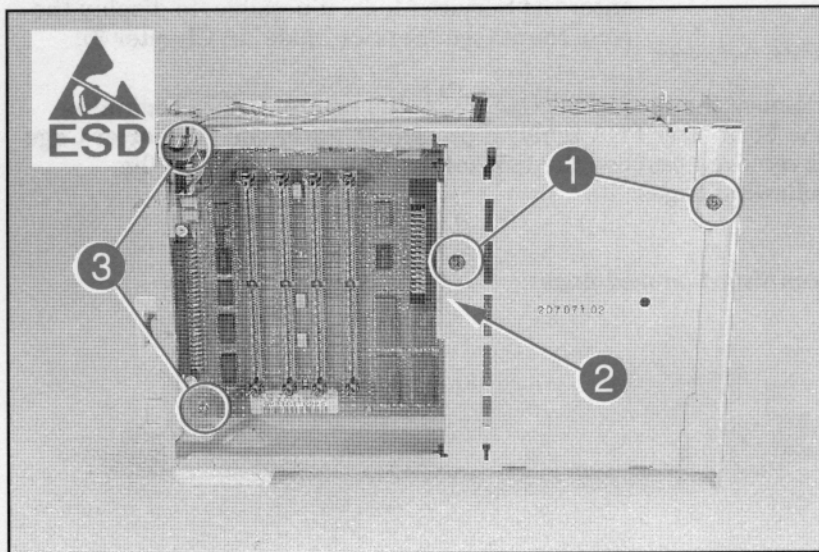

Figure 6-25a **Formatter Cover and PCA Mounting Screws**
- 2 Remove the (2) black screws from the side of the Formatter Cage (see Figure 6-25a, callout 1).
- 3 Remove the MIO Connector Support Bracket (see Figure 6-25a, callout 2).
- 4 Remove the (2) Formatter PCA mounting screws (see Figure 6-25a callout 3).
- 2 Remove the MIO Connector Support Bracket (see Figure 6-25a, callout 2).